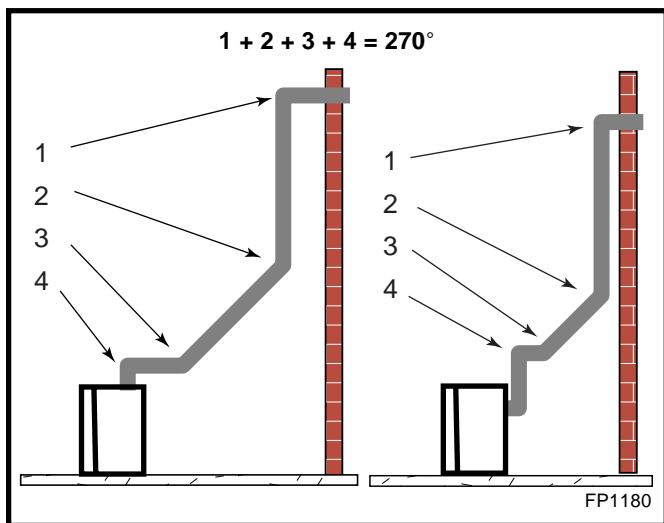

Fig. 28 Maximum elbow usage.
- The maximum number of 45° elbows permitted per side wall installation is two (2). These elbows can be installed in either the vertical or horizontal run.
- The maximum number of elbow degrees in a system is 270°. (Fig. 28)